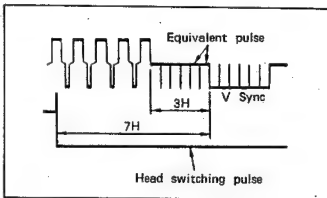

Fig. II-62
- (7) Remove the ND-2.0 filter and observe the monitor TV. (Fig. II-62)
- (8) Adjust VR2101 to check if the blooming is appeared.